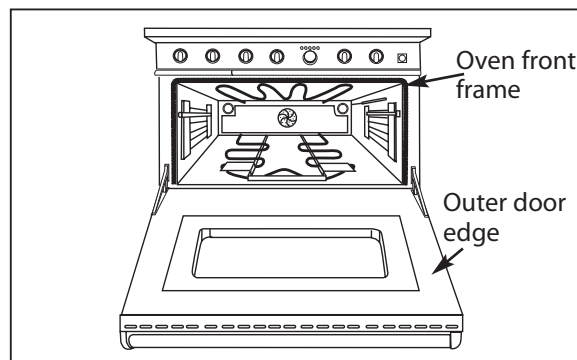

Fig. 10
- Clean the oven front frame and outer door edges. Wipe up large spillovers and grease. (see fig. 10)